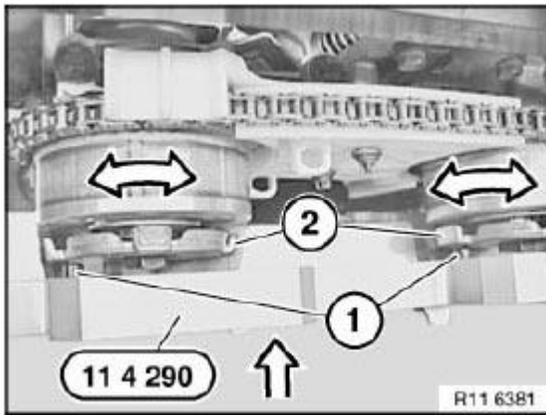

Fig. 217: Identifying Sensor Gears And Pins
Turn sensor gears (2) in direction of arrow until locating pins (1) on special tool 11 4 290 match up. See Fig. 217.